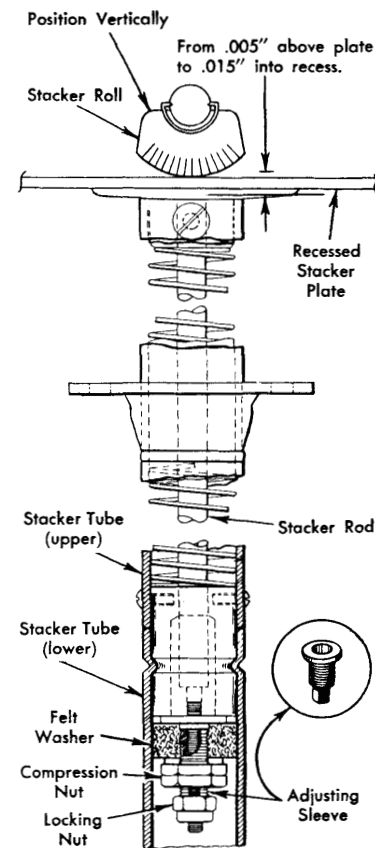

Figure 39. Stacker Plate Adjustment
##### STACKER PLATE TO STACKER ROLL CLEARANCE (FIGURE 39)
**STACKER PLATE DAMPENING (FIGURE 39)**